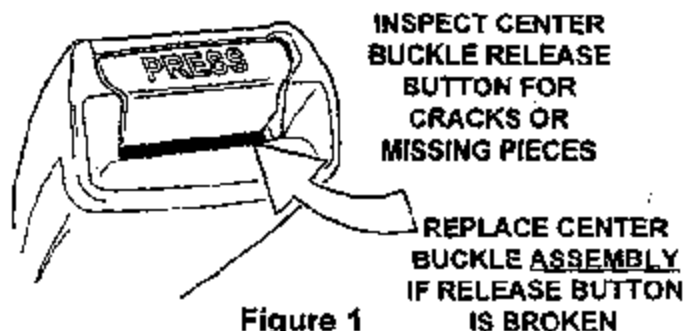

Figure 1
2. Inspect the center buckle red release button for cracks or missing pieces (Figure 1).